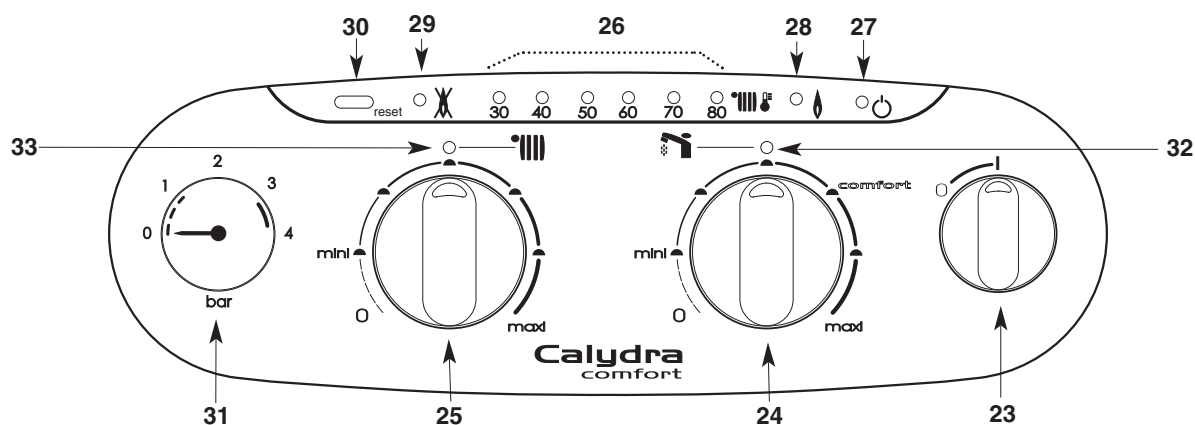

Fig.17
Turn selector switch **23** (fig 17) to position **I**
Turn selector switch **23** (fig. 17) to position **I**.
Turn the boiler thermostat to maximum **25** (fig 17).
**Control panel (fig 17)**